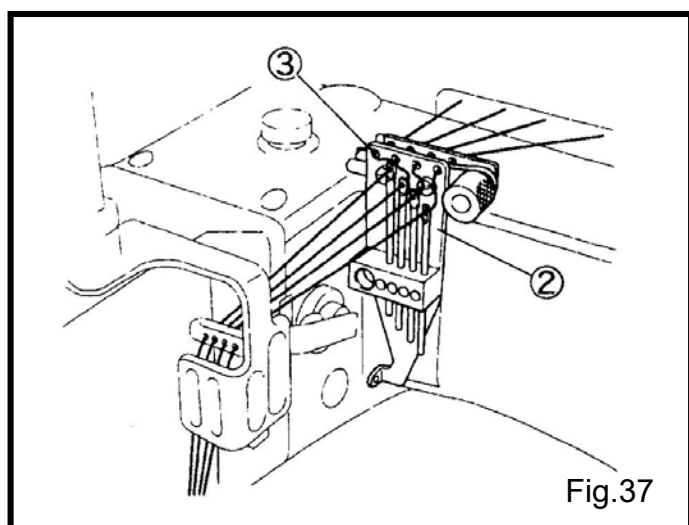

Fig.37
- (1) 右邊最高的過線孔①要跟線孔③成一直線。(Fig.37,38)
- (2) 設定過線孔④比①低 5mm。
- (3) 設定過線孔⑤比①低 9mm。
- (4) 設定過線孔⑥比①低 15mm。
- (1) Make the height of the right needle thread eyelets① to align their eyes with the eyes③ of the needle thread eyelet holder.(Fig.37,38)
- (2) Set the eyelet④ 5 mm lower than the eyelet①.
- (3) Set the eyelet⑤ 9 mm lower than the eyelet①.
- (4) Set the eyelet⑥ 15 mm lower than the eyelet①.